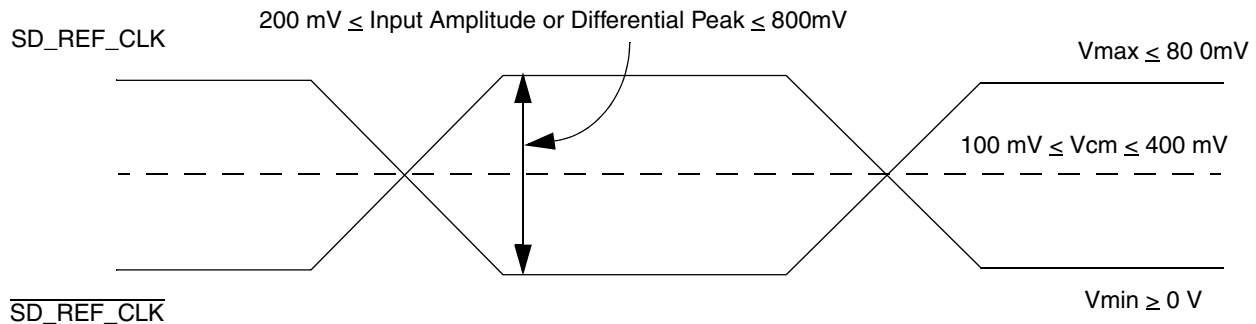

**Figure 17. Differential Reference Clock Input DC Requirements (External DC-Coupled)**
- For **external DC-coupled** connection, as described in Section 10.2.1, “SerDes reference clock receiver characteristics,” the maximum average current requirements sets the requirement for average voltage (common mode voltage) to be between 100 mV and 400 mV. Figure 17 shows the SerDes reference clock input requirement for DC-coupled connection scheme.